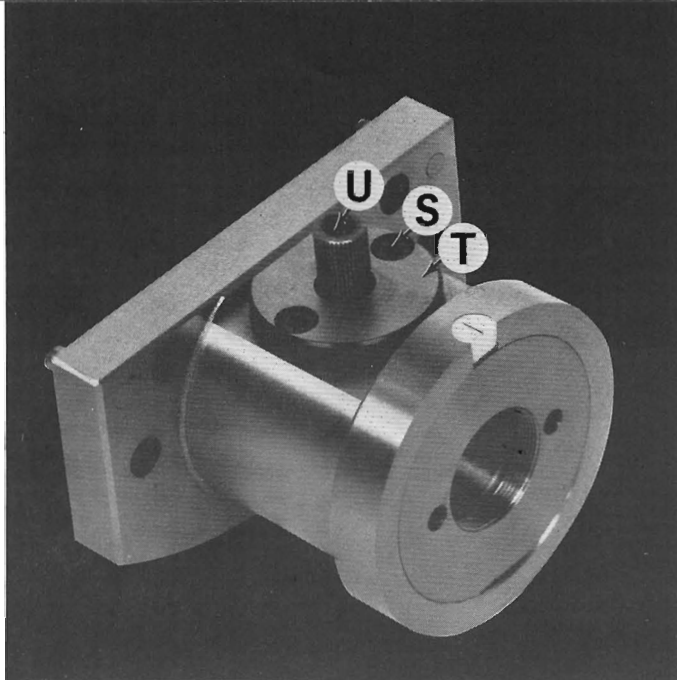

Figure 153 — Eccentric for Handle
- (F). Remove two screws "S", Figure 153, eccentric support "T" and eccentric shaft "U".
6. Coat eccentric end of shaft "U", Figure 153, with Die Makers Grease and replace. Replace eccentric support "T" and two screws "S".